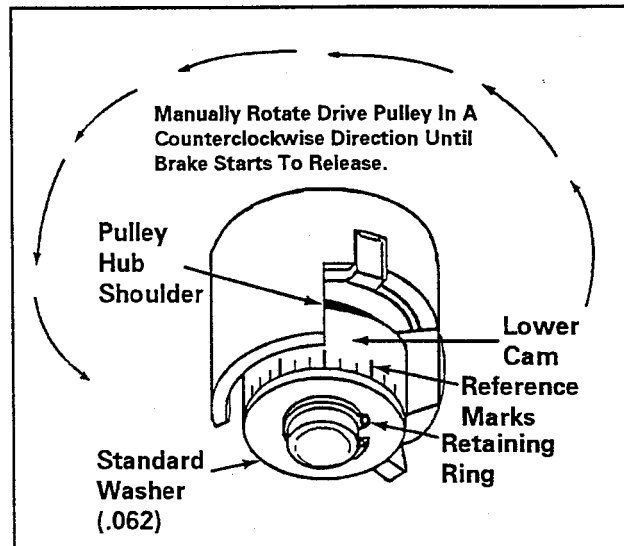

Figure 7-5
Reference marks have been molded around the bottom outer edge of the lower cam as an aid in checking the point of brake disengagement (*Figure 7-5*). Each mark, from right to left, represents approximately .010 of an inch cam rise.
1. Manually rotate the drive pulley in a slow counterclockwise direction until the brake starts to release and the transmission begins to turn (*Figure 7-5*).
2. Counting the reference marks on the lower cam from right to left, the pulley hub shoulder should be positioned between reference marks 9 and 4 with 6 being the median (*Figure 7-5*).